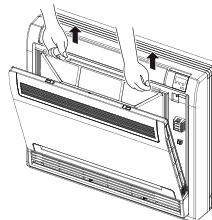

Fig. 4
- 2) Detach the net type filter as it shown in Fig. 4, then take it out by sliding it upwards.